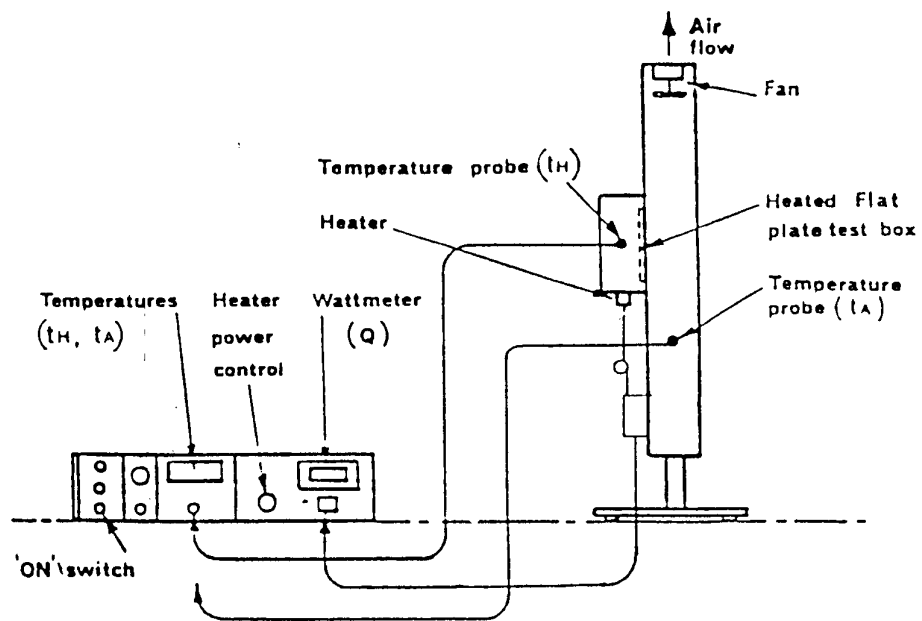

Fig. 2.2
The equipment should be set up as shown in figure 2-2. Ask for your instructors' help.
1. Replace the flat plate exchanger in the duct by finned exchanger (fig 2-2)
- 2) Place pinned exchanger in the duct (fig 2-2)